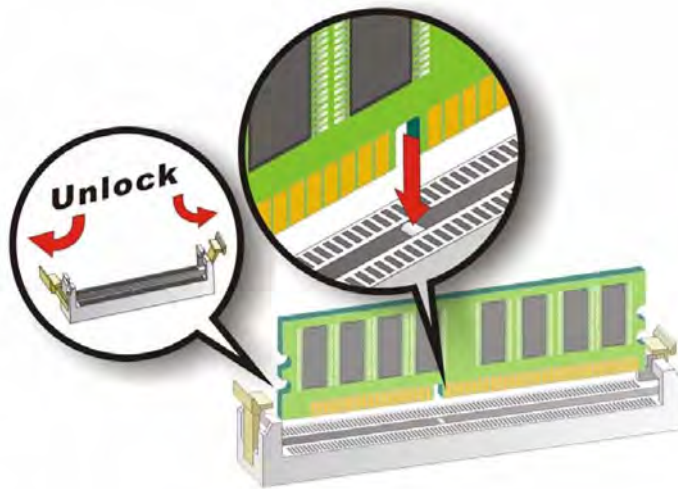

Figure 4-7: Installing the DIMM Module
**Step 1:** Make sure the two handles of the DIMM socket are in the "open" position, leaning outward (**Figure 4-7**).